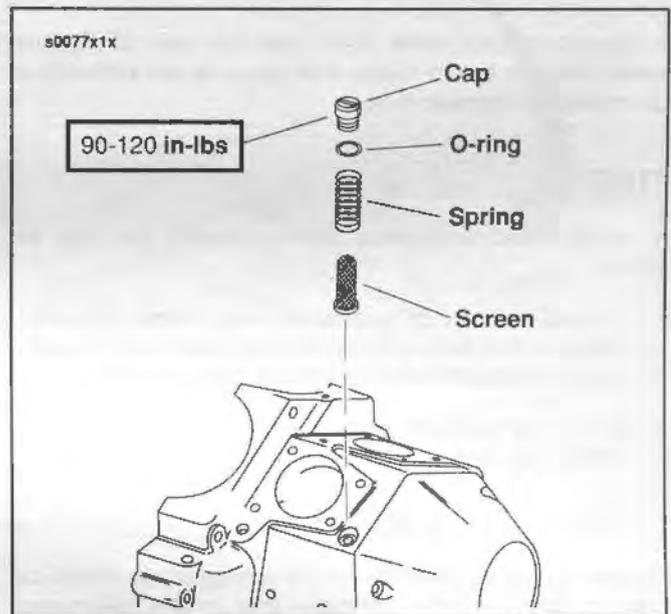

Figure 1-9. Hydraulic Lifter Oil Screen
- See Figure 1-9. Remove cap, O-ring, spring, and screen.